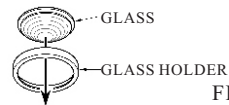

FIG.18
5. Assemble the glass and glass holder.(see fig.18)